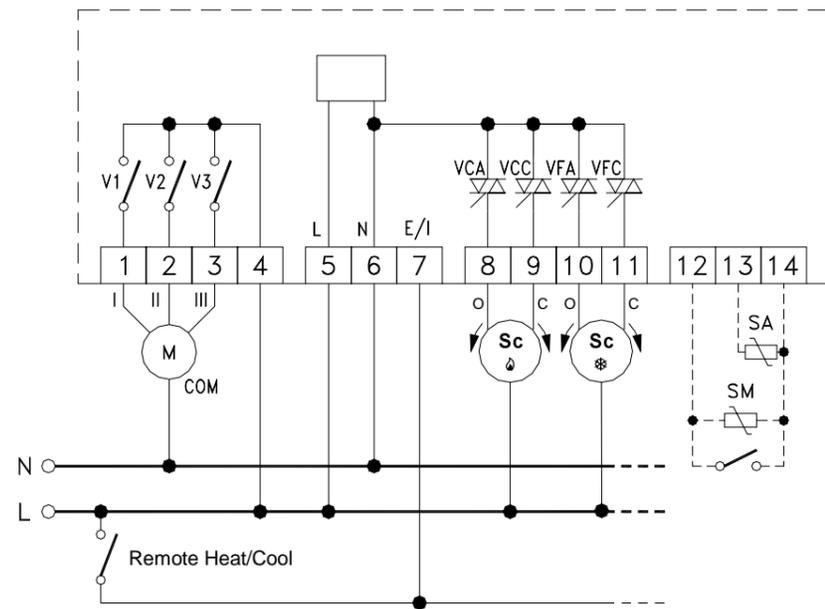
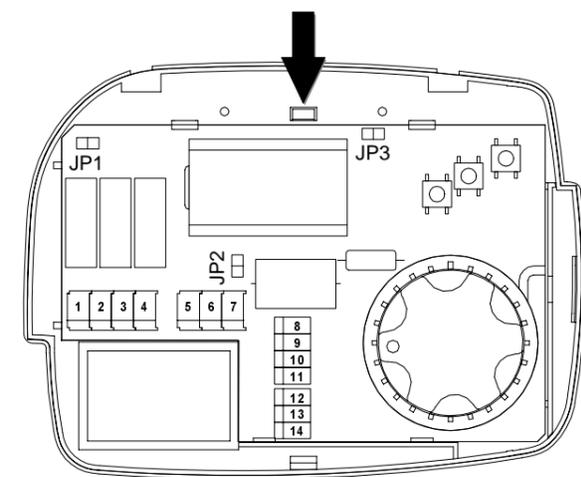

Fig. 6: Wiring diagram.
Fig. 4: Internal view.
2. Unmount the plate fixed at the controller back by pressing the plastic tooth shown in Fig. 4 and, at the same time, pull the plate to the bottom until it becomes free from the plastic base.
5. Make electrical wirings passing the cables through the rectangular opening and according to the wiring diagram shown in Fig. 6.
This controller can be powered either with 230V~ or with 24V~. The controller is factory configured by default for a 230V~ operation with the relevant jumper in position JP1. For the 24V~ operation it is necessary to move the jumper from position JP1 (Fig. 4) to position JP2 (Fig. 4). As shown in Fig. 6 terminals 5 and 6 are provided for power supply. In case of 230V~ mains power it is mandatory to respect Live and Neutral indication. At terminal 7 an input for remote heating/cooling selection is made available. In case this function is not used, the same terminal input can be used to activate the 'Economy' mode. A remote temperature sensor can be wired to terminals 12 and 13. The selection between internal or remote sensor is made through the configuration procedure.